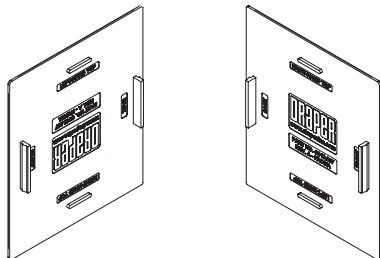

Figure 3
Note: See Figure 3 below for specific operators.
- ③ For endcaps, snap end covers into place (see Fig. 3).